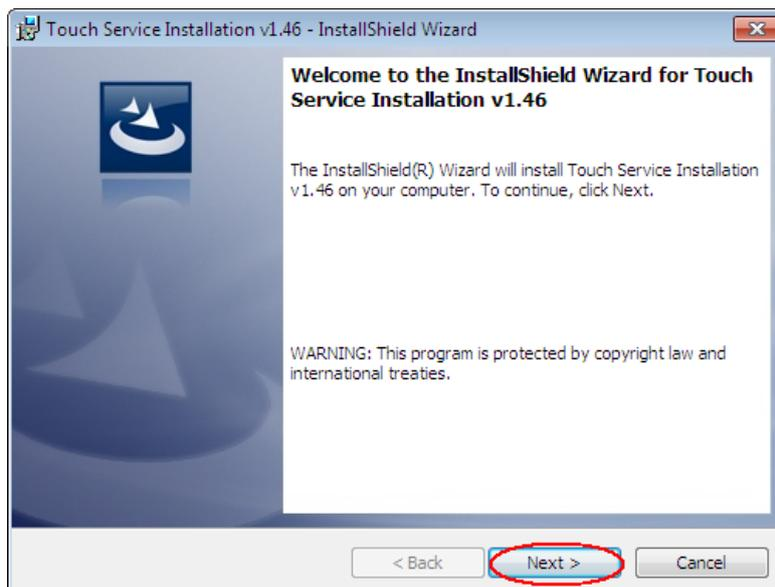
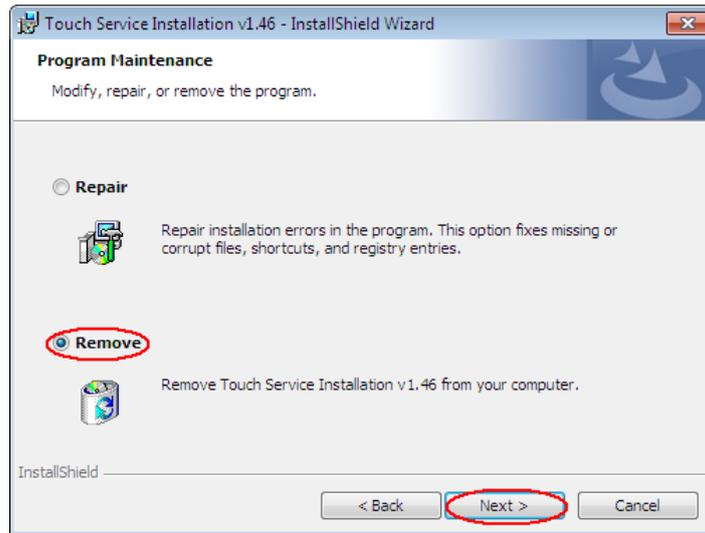

Figure 3-8
Figure 3-9
- b) Click "Next" (Figure 3-8) and go to Program Maintenance interface (Figure 3-9). Select "Remove".